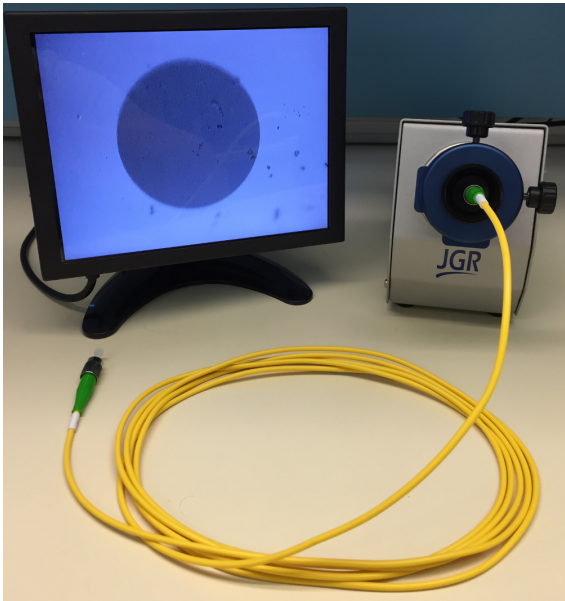
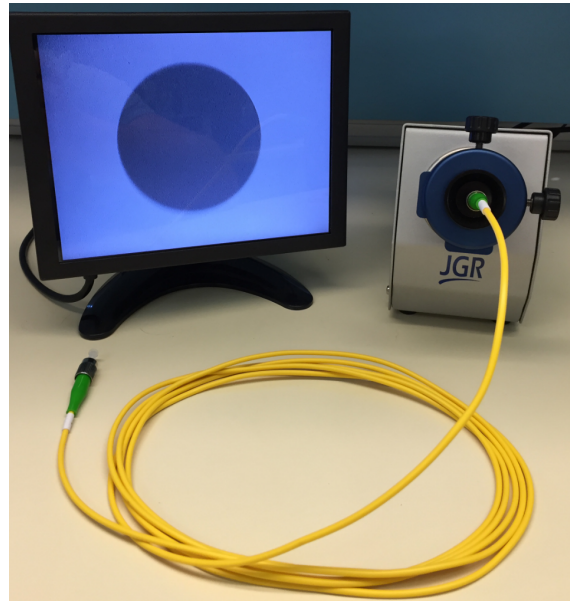

Figure 17: Dirty connector end-face inspection using Santec's EFI-100
Figure 18: Clean connector end-face inspection using Santec's EFI-100
1. Inspect all connectors before each mating and if needed, clean with a lint-free wipe and/or IPA. Figure 17 shows a dirty connector requiring cleaning. Figure 18 shows a clean connector ready to be mated.